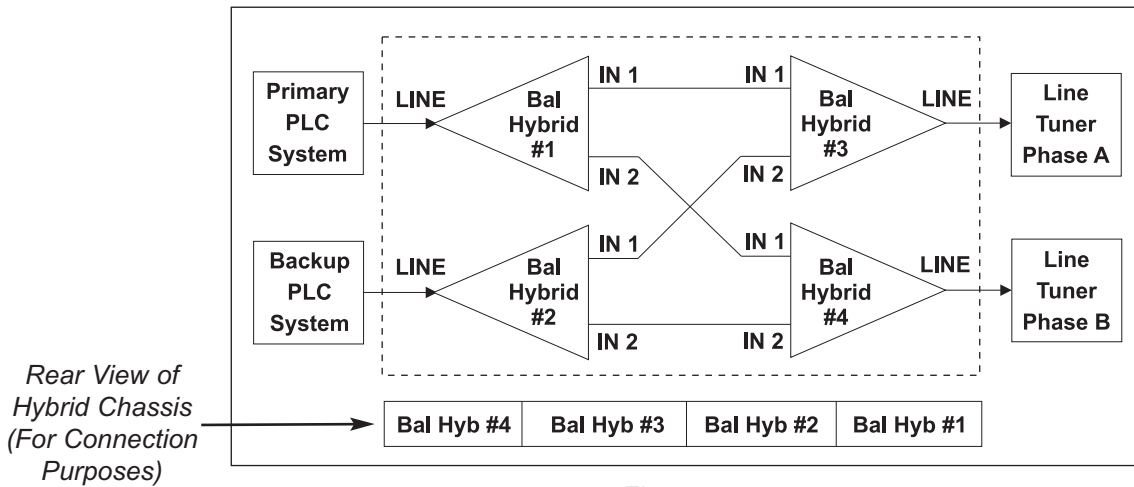

Figure 7-7.
- For redundancy, where no single point of failure is allowed in a phase-to-phase coupled system, a balanced combiner hybrid arrangement can be used where 4 balanced hybrids are interconnected. If any one hybrid fails, at least one of the systems (Primary or Backup) continues to work . (See Fig. 7-7)